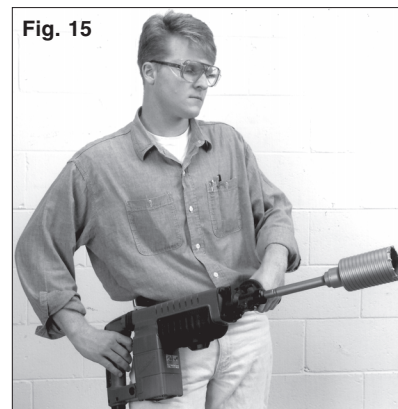

Fig. 15
4. To change the core bit, hold the tool upwards, pointing it away from your body as shown, and run it briefly in forward to loosen the core bit from the adapter (Fig. 15).